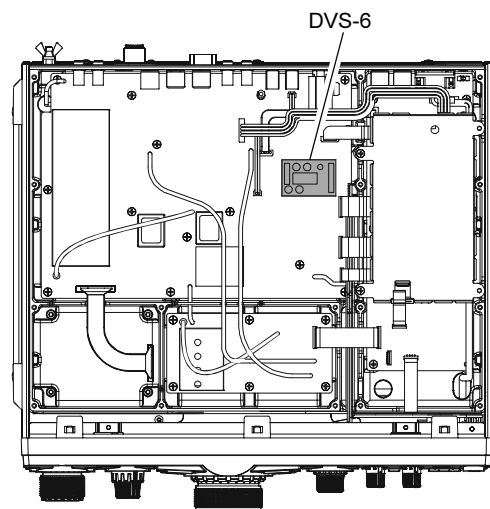

FIGURE 3
5. Refer to Figure 3, push the **DVS-6** onto the pins corresponding to its assigned mounting location on the transceiver. Gently press the board down until it is firmly seated in its connectors.